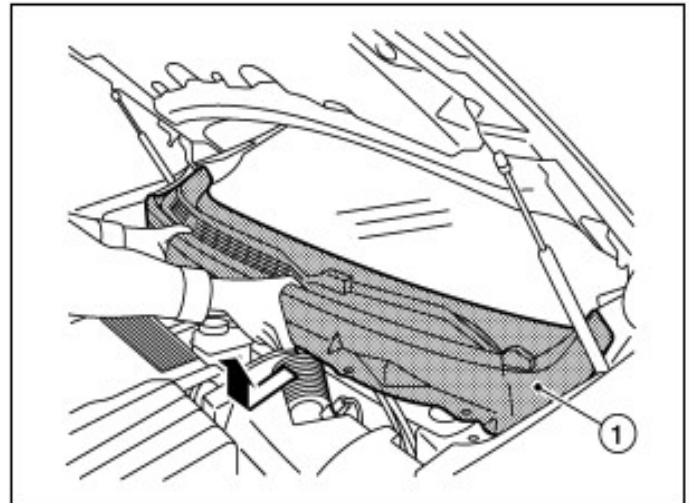

Figure 2
2. Remove Cowl Top Cover per the Electronic Service Manual (ESM) (Figure 2).